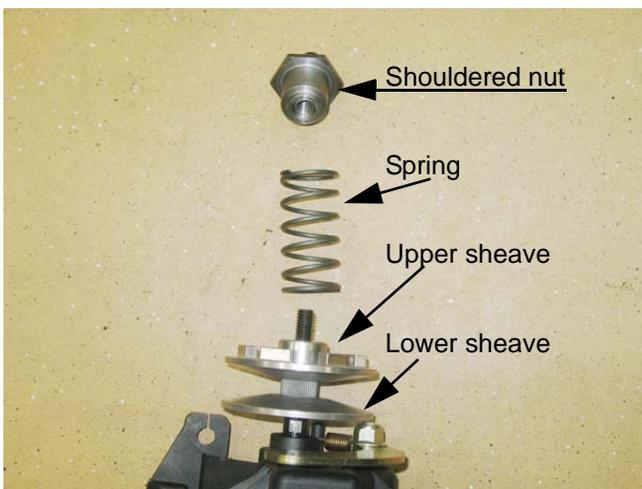

Figure 6.16
- 6b. The nut will be under slight spring tension. Once the nut clears the end of the threads on the input shaft, remove the nut and the spring. See Figure 6.16.